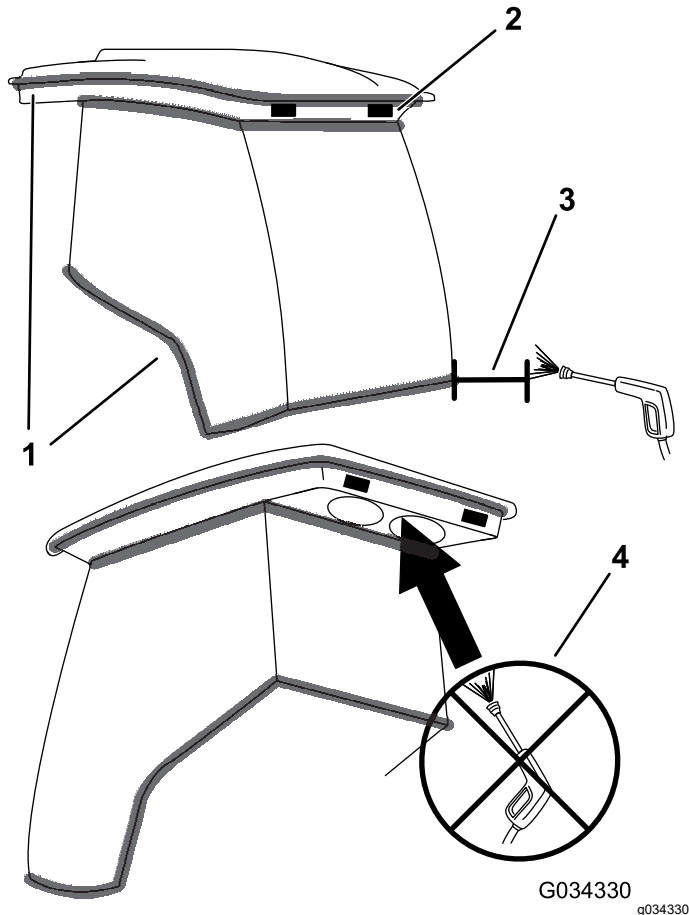

Figure 86
**Important:** Use care around the cab seals (Figure 86). If you are using a pressure washer, keep the washer wand at least 0.6 m (2 ft) away from the machine. Do not use the pressure washer directly on the cab seals or under the rear overhang.